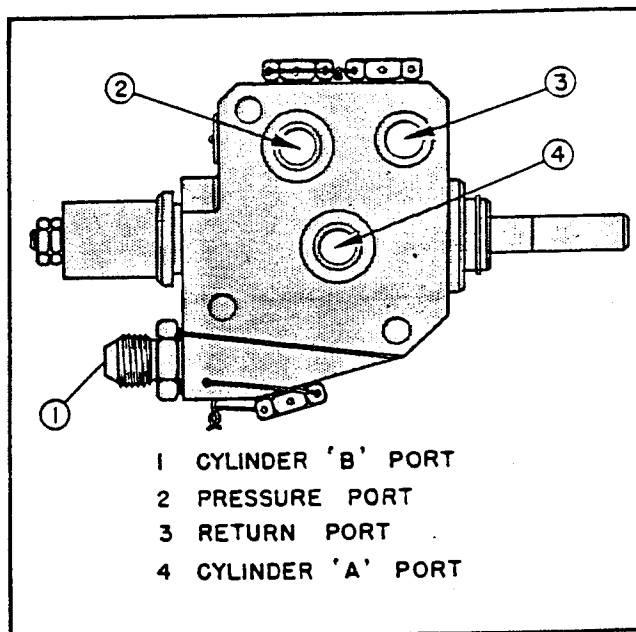

Figure 31. Elevon Servo Valve Test Reference
1. TEST. (See figure 31.)
1. With the threaded end of the spool depressed, the pressure port shall be connected to cylinder "B"; and the return port to cylinder "A." Refer to figure 31.